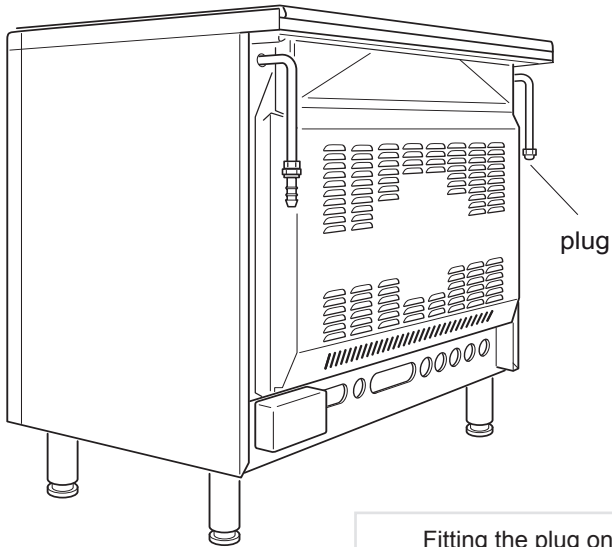

Fig. 8.1a
- The gas supply is connected at the rear of the cooker to the right or left terminal of the gas inlet pipe (Fig. 8.1a). The connection pipe must not cross the rear of the appliance.